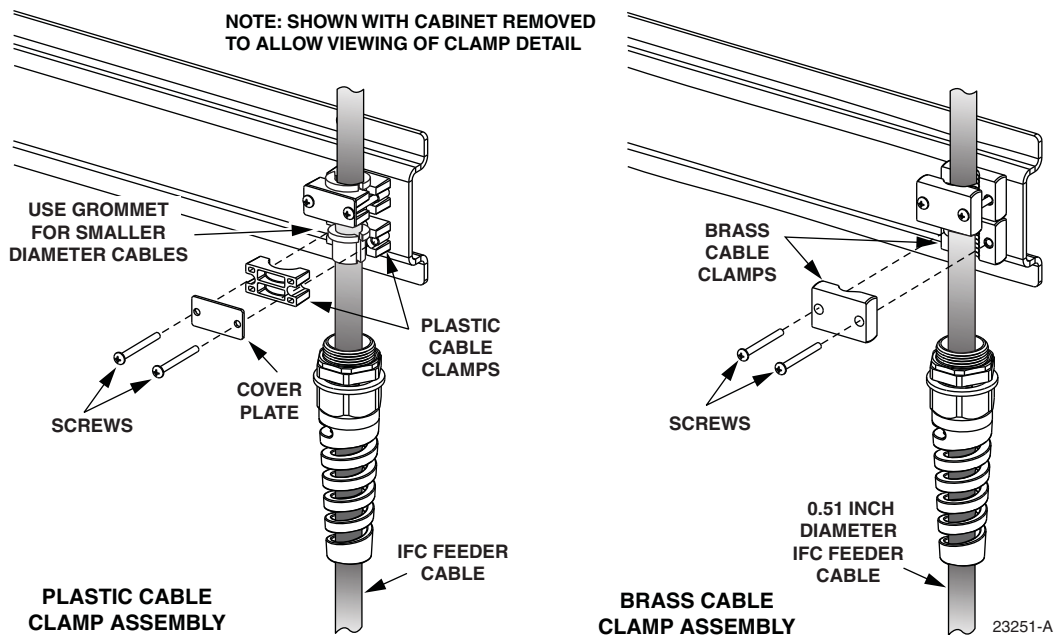

Figure 31. Assembling Feeder Cable Clamps
23. Depending on the cabinet option, either plastic or brass clamps will be provided with the cabinet. Assemble the cable clamps on the IFC feeder cable as shown in Figure 31.